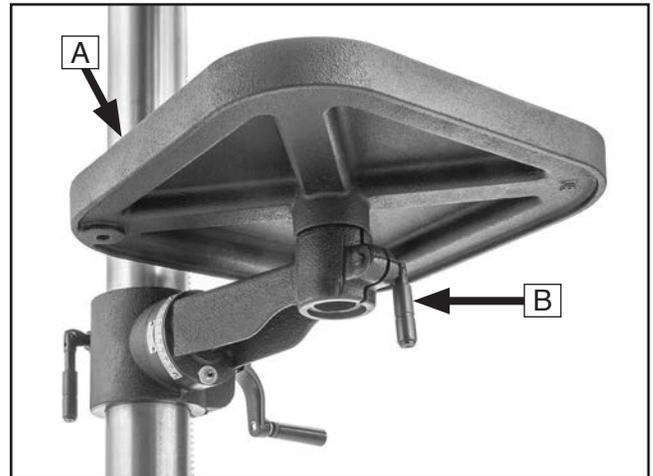

Figure 14. Example of table installed.
9. **T34608–T34610 Only:** Insert the table (see **A** in **Figure 14**) into the table bracket. Thread the table swivel lock handle (see **B** in **Figure 14**) into the table bracket.